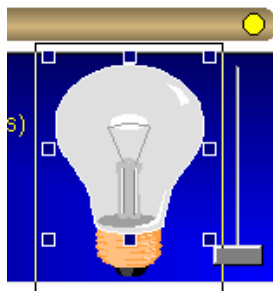

Figure 5.25. Sub-Symbol Editing
2. A solid line surrounds the border of the symbol, indicating that sub-symbol editing is taking place. Click on the gray glass portion of the light bulb to select it, as shown in **Figure 5.25**.